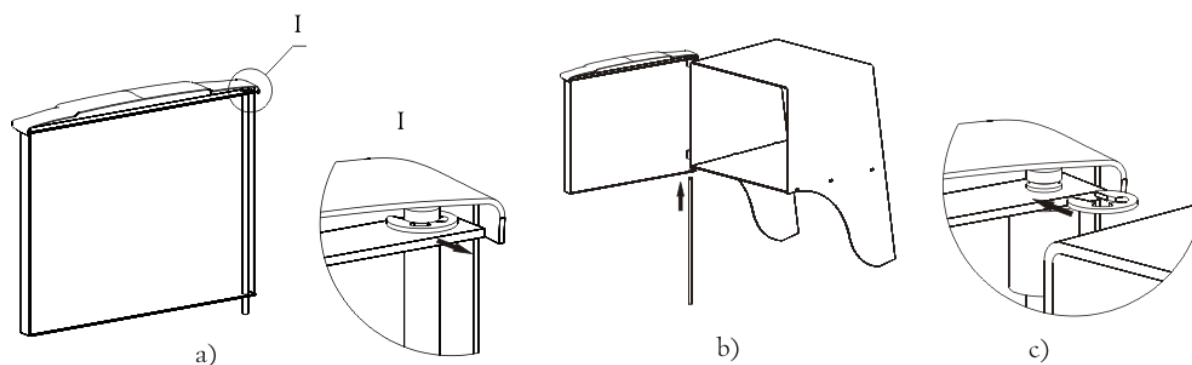

Figure 7. Assembly of the door under installation of the stove «Angara 2012».
1. Remove a stop quick-detachable collar, then remove the axis out of the door, see figure 7 a;
3. Set an axis from bottom to top through holes. Place a groove under a collar in the top part of an axis, see figure 7.b;
4. Install a stop quick-detachable collar in a groove on an axis, see figure 7.c.